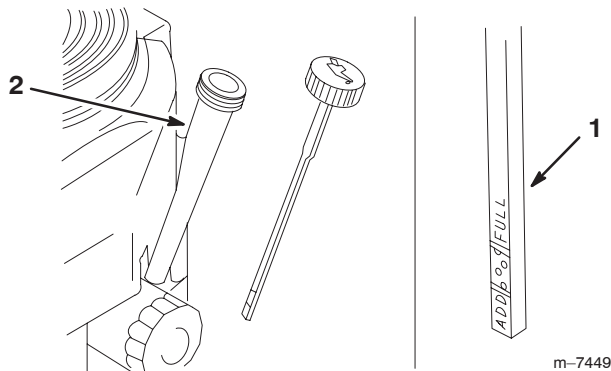

Figure 29
4. Clean around the oil dipstick (Fig. 29) so that dirt cannot fall into the filler hole and damage the engine.
5. Unscrew the oil dipstick and wipe the end clean (Fig. 29).
6. Slide the oil dipstick fully into the filler tube, but do not thread onto tube (Fig. 29).
8. Slowly pour approximately 80% of the specified oil (refer to Service Interval/Specification, page 28) into the filler cap (Fig. 29).